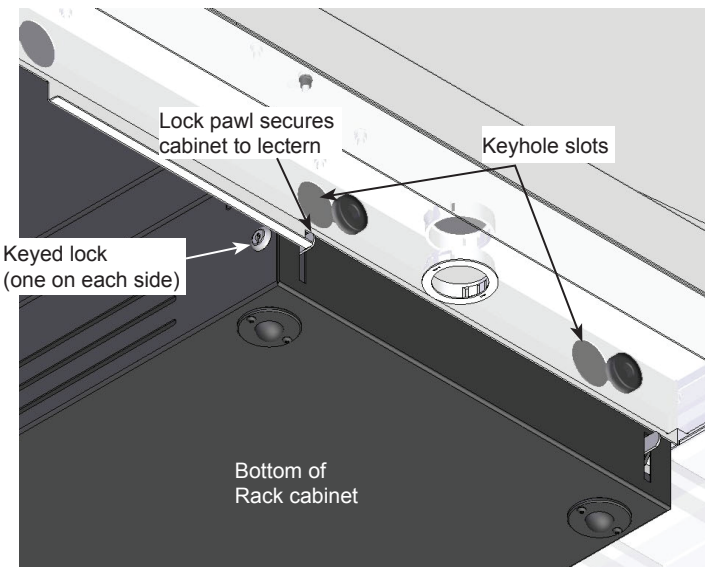

Figure 4B
1. To detach the rack cabinet from the lectern, unlock the cabinet lock pawl near the floor. **Figure 4B.**